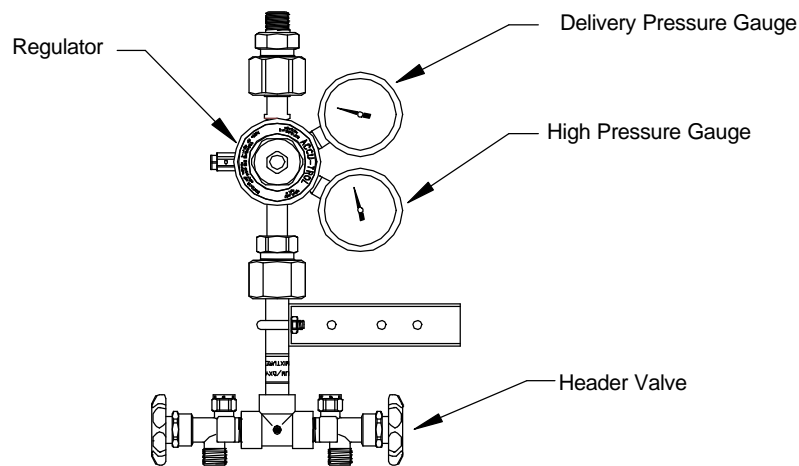

FIGURE 15
1. S-L-O-W-L-Y open the cylinder valve (turn counter-clockwise to open). The high pressure gauge will show the pressure of the cylinder. (Figure 15)